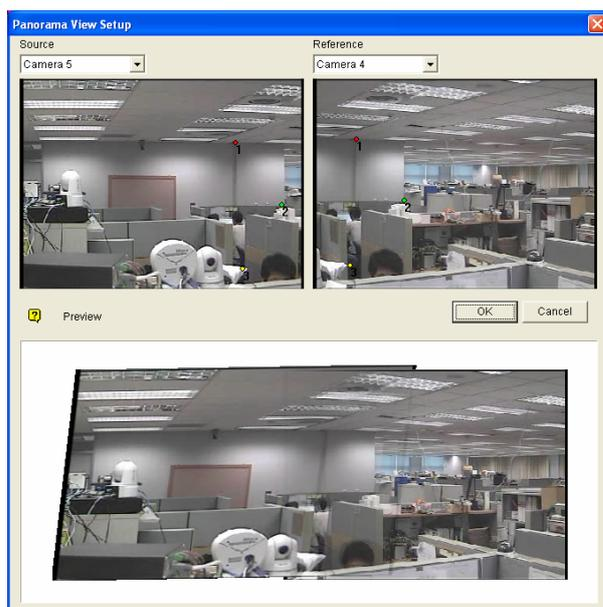

Figure 1-94
1. Select one panorama set (No. 9, Figure 1-94) from the drop-down list. If you want to rename the selected panorama set, type the name in the field.
2. Select one camera from the Source drop-down list (No. 10, Figure 1-94) and then click **Manual Setting** (No.3, Figure 1-94). This dialog box appears.